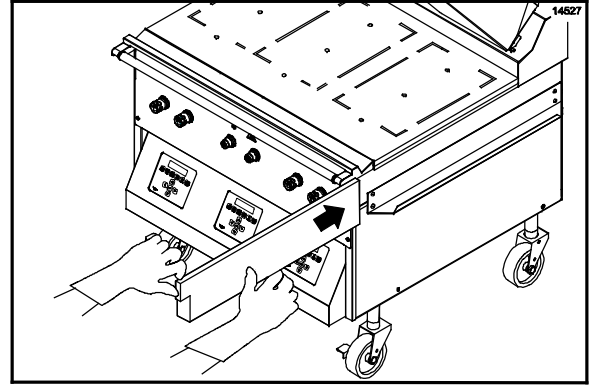

Figure 112
47. Re-install the grease pans. (See Figure 112.)